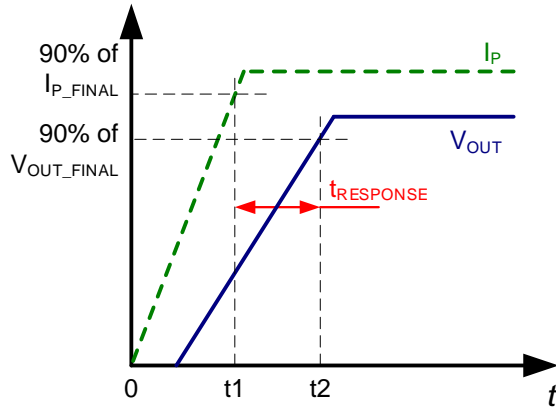

Figure 8: Response Time ($t_{RESPONSE}$)
2. t_2 : V_{OUT} reaches 90% of its final value, as it corresponds to the applied primary current (see Figure 8).